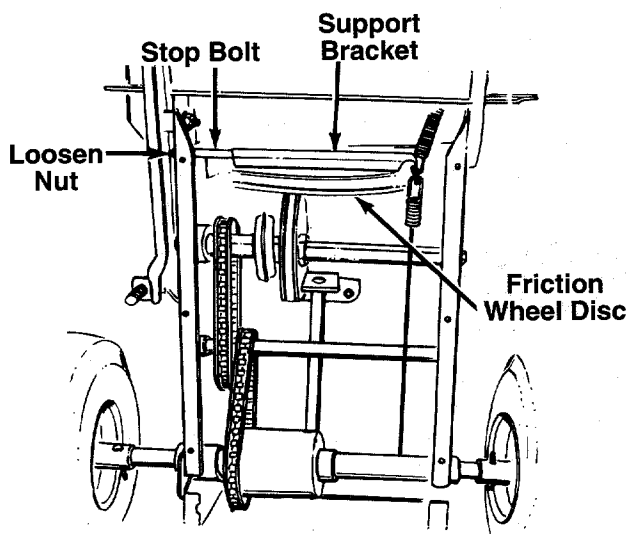

FIGURE 20.
7. Loosen the nut on the stop bolt until there is clearance between the support bracket and the friction wheel disc. See figure 20.